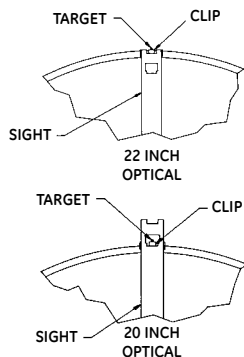

FIGURE 5B
6. Align the target as shown on *Figure 5B*.
8. Align the target as shown on *Figure 5B*.